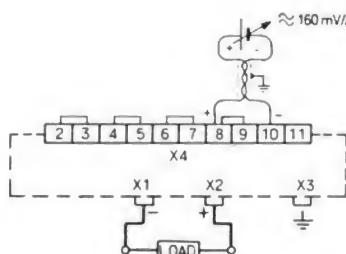

Fig. 8g. Remote current control with external voltage
- By connecting an adjustable voltage source of approx. 160 mV per ampere output current as shown in Fig. 8g. The voltage source must be able to consume 1 mA.